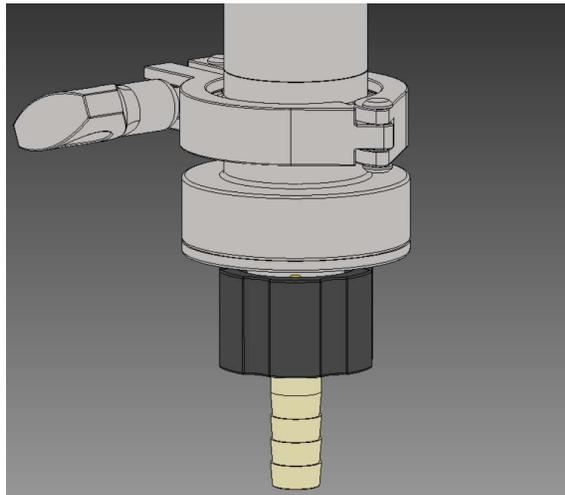

FIGURE E. 2. - SAMPLE VALVE IN CLOSED POSITION
2. Yellow indicator should not be visible upon valve closing (see Figure E.2.)